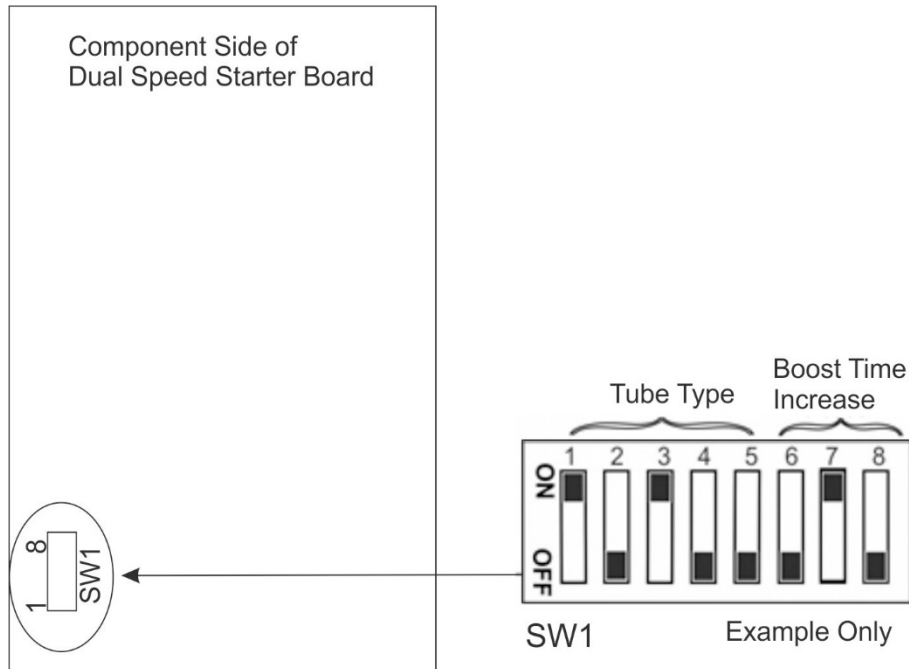

Figure 2-14B: Dual-Speed Starter DIP-switch SW1
5. Refer to Figure 2-14B. Set DIP-switch SW1 with the binary code for the selected tube. The binary code shown in the referenced Table 2 in the *X-ray Tube Stator Compatibility Tables* supplement (part number: 746026-00) programs the tube type (housing and insert), for example housing type Varian Sapphire with standard “R” stator and inserts per Table 2 requires SW1-1 to be set ON, SW1-2 OFF, SW1-3 ON, SW1-4 OFF and SW1-5 OFF. This programs the voltages, brake times, and boost times required.
6. The DIP-switch setting shown in Figure 2-14B is for the example in step 5 with an incremental increase in boost time of 200 ms.
The DIP-switch shown in Figure 2-14B is representative of one style of switch only. Depending on manufacturer, your DIP-switch style may vary. Note the ON / OFF positions carefully for your unit.